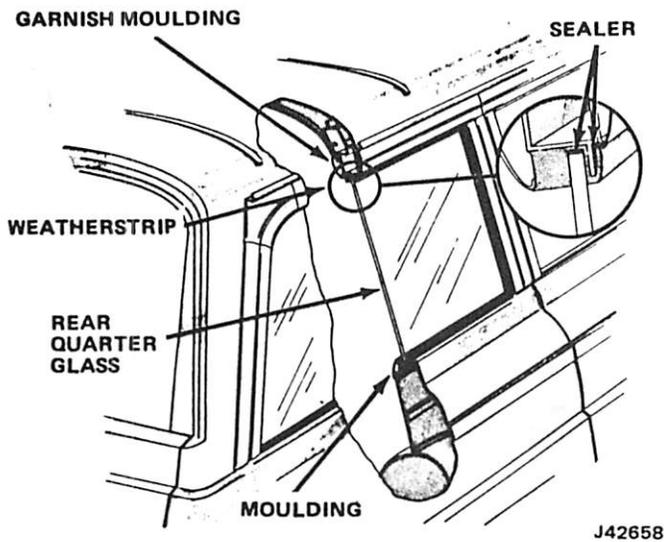

Fig. 3K-2 Rear Quarter Window—Cherokee-Wagoneer Models
- (1) Remove inside spare tire, if equipped.
- (2) Remove interior garnish mouldings from around window and break seal loose between weatherstrip and body panels (fig. 3K-2).
- (3) Push glass toward inside of vehicle.
- (4) Remove weatherstrip from around glass and clean old sealer from glass cavity and flange cavity.